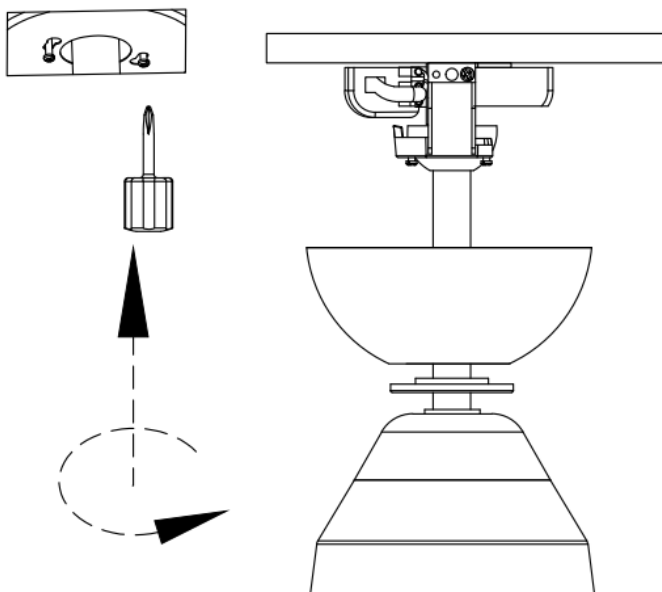

Fig. 11.1
- Loosen the 2 screws at the bottom of the mounting bracket. (Fig 11.1)